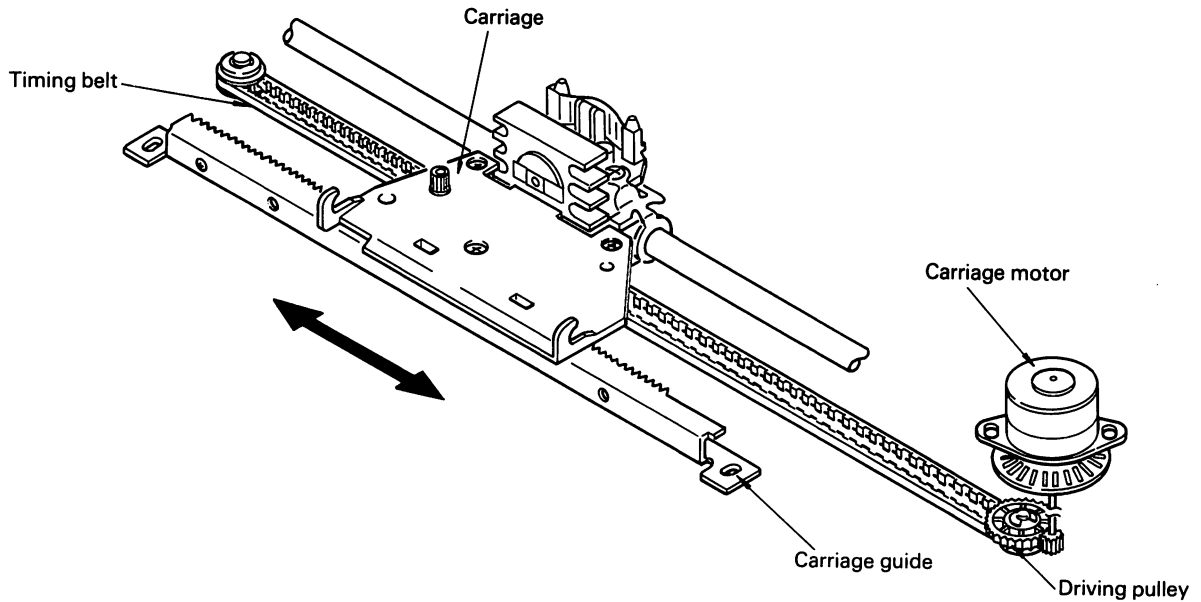

Fig. 2-31. Carriage Mechanism
2.5.2 Carriage Mechanism (Fig. 2-31)